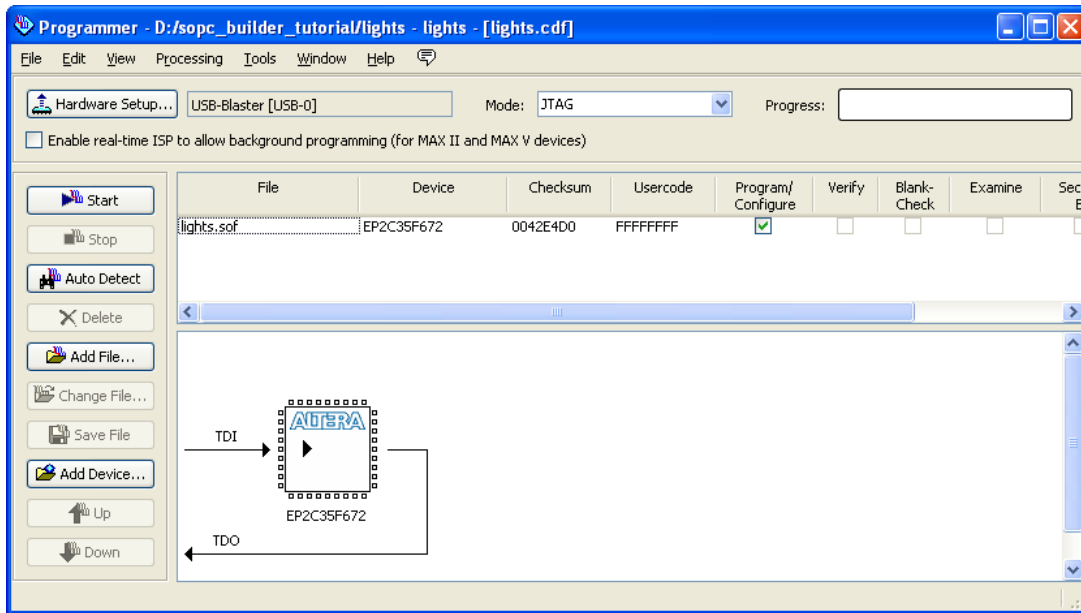

Figure 19. The Programmer window.
2. Select **Tools > Programmer** to reach the window in Figure 19.
6. At this point the window settings should appear as indicated in Figure 19. Press Start to configure the FPGA.